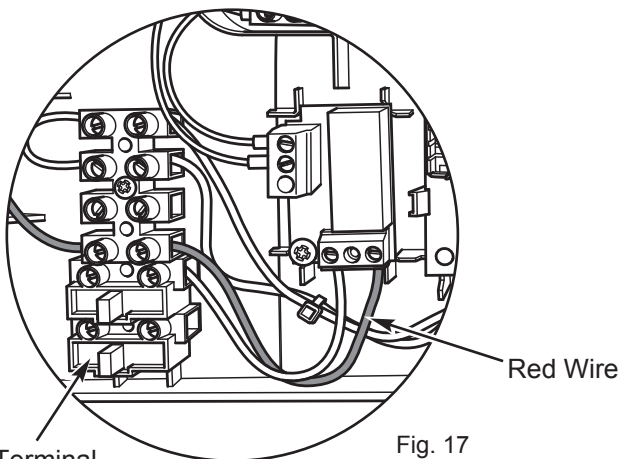

Fig. 17
7. Connect the red wire to the spare terminal between the neutral and earth connection on same M1 terminal block (Fig. 17).